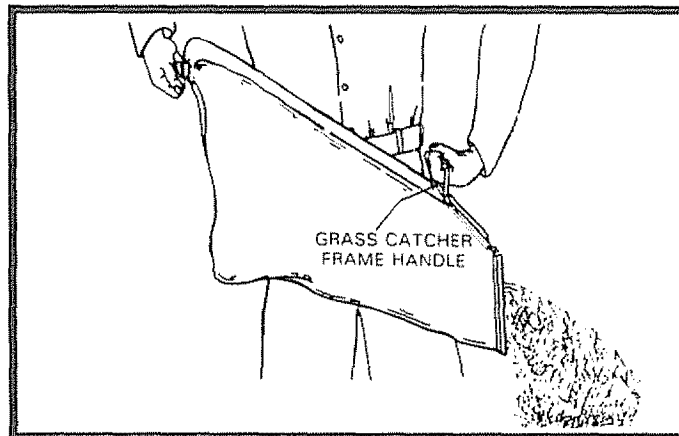

FIG. 12
- Empty clippings from Bag using both Frame and Bag Handles (See Fig. 12).